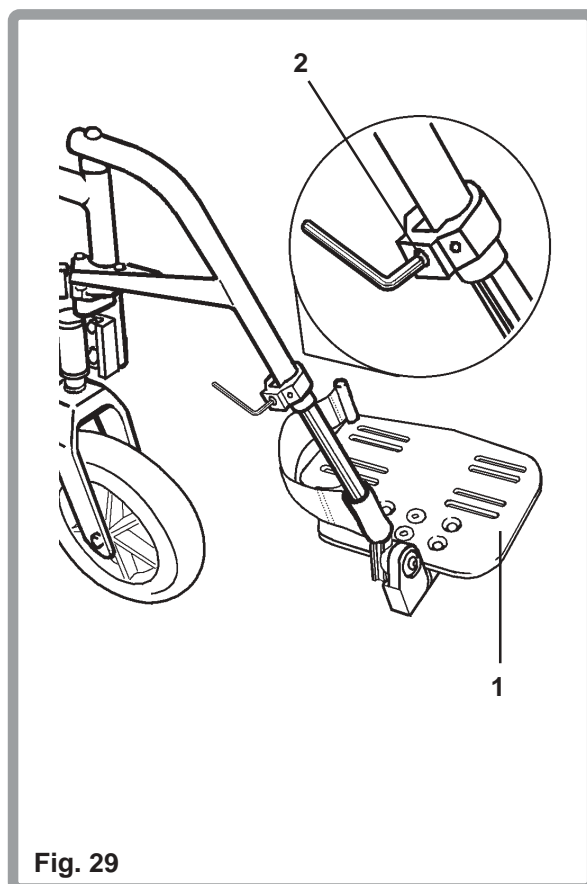

Fig. 29
To adjust the footplate (1) height, loosen the screw (2), located as shown, with a 4 mm Allen key and set the footplate height to the required position. Tighten using the Allen key to a torque setting of 5-8Nm (Fig. 29).